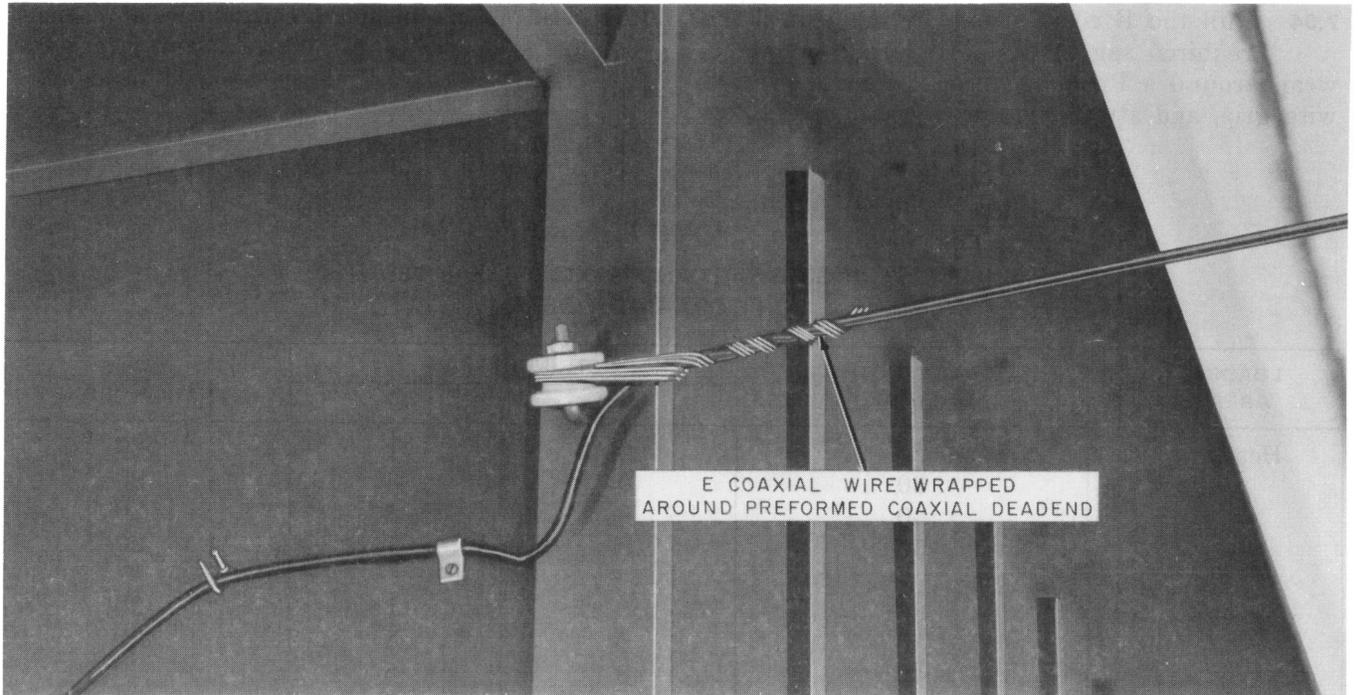

Fig. 12—E Coaxial Wire Attached to First House Attachment
7.01 Wrap the E coaxial wire around a Preformed coaxial deadend and attach to the first house attachment as shown in Fig. 12 or use an S wire grip for dead ending the coaxial wire as follows: